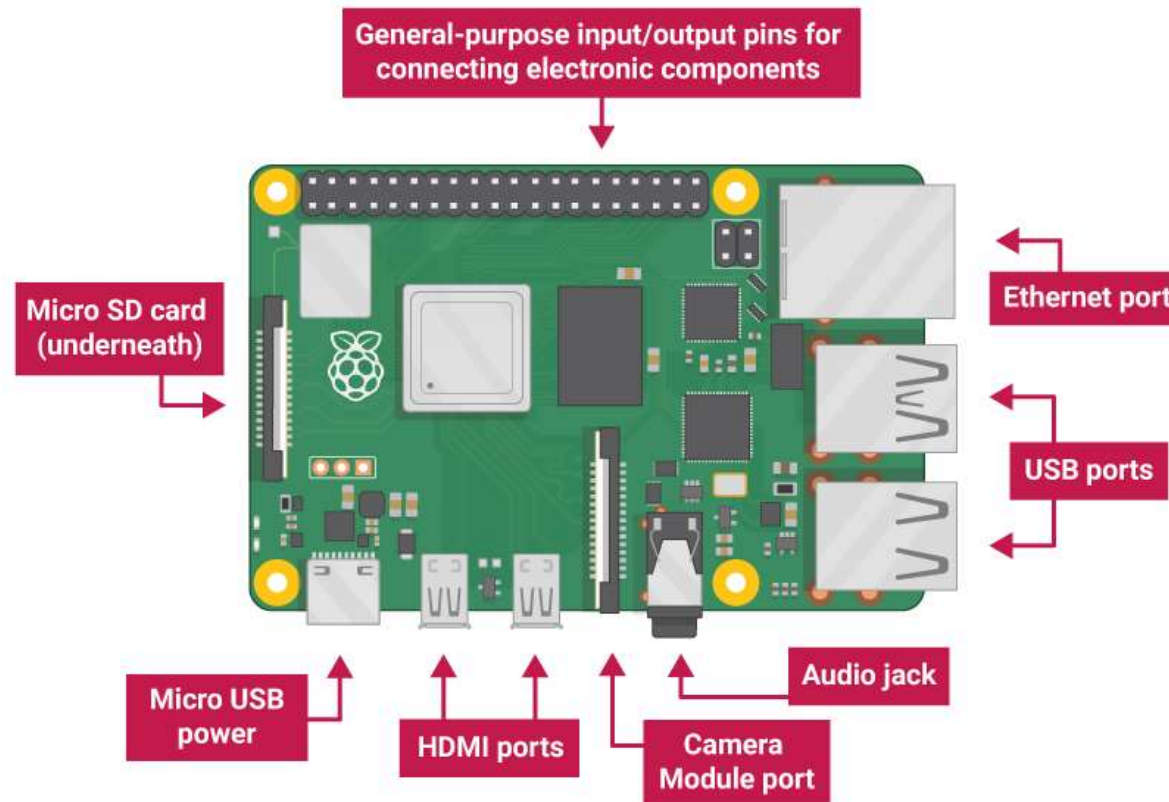

Figure 8.1 : Raspberry Pi Learning Board
- The figure 8.1 shows a labelled Raspberry Pi board